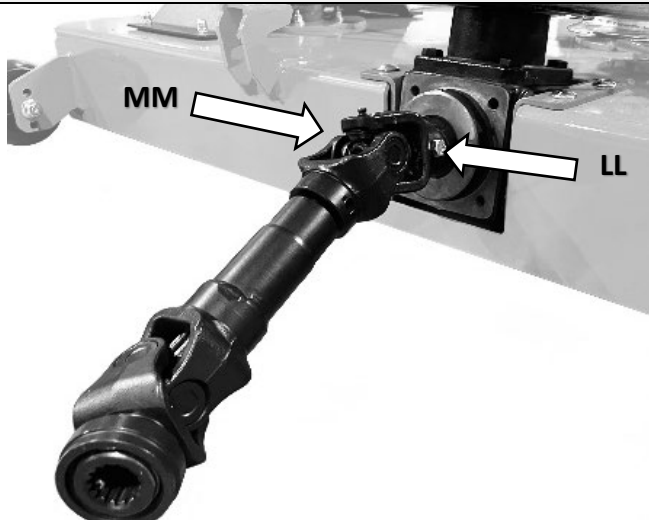

Figure 4C
4. Attach the PTO to the mower deck and secure with a bolt LL and nut MM (Figure 4C). Torque to 13 ft-lb.